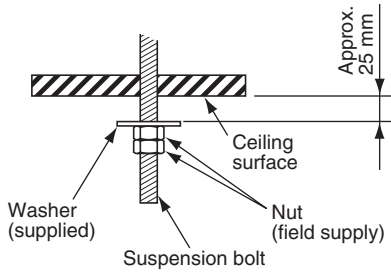

Fig. 3-24
- Mount 1 washer and 2 hexagonal nuts on each suspension bolt (Fig. 3-24).